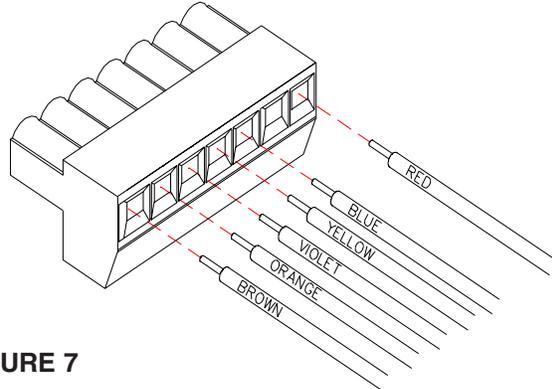

FIGURE 7
Refer to Figure 7 for control head installation.
"Aux" mode: Pushing the button marked "Aux" will activate the control head relay. This will switch +12Vdc to the terminal marked "Aux Output" in Figure 7. The LED on the front panel will light indicating that the auxiliary switch is activated. This auxiliary output is limited to 12Amps at 12.8 Vdc nominal.
Connect the "External Flash" input of the 7 position connector to +12 Vdc through a user supplied switch, as shown in Figure 7. When this switch is closed, the ArrowStik will operate in the "Flash" mode, unless another traffic directing pattern is already selected.
- 3) Refer to the "Wiring instructions" section of this user instruction manual, page 5. Beginning with the cable marked "Driver", connect each of the colored wire as shown in Figure 7, to the control head: however DO NOT USE THE RED/WHITE, BROWN OR ORANGE WIRES in this cable. Cut these wires back to the black jacket of the 7 wire cable.
- 4) With the cable marked "Passenger", connect each of the colored wires, as shown in Figure 7 of the user manual, to the control head: DO NOT USE THE RED/WHITE, YELLOW OR BLUE WIRES in this cable. Trim these wires back to the jacket of the 7 wire cable.